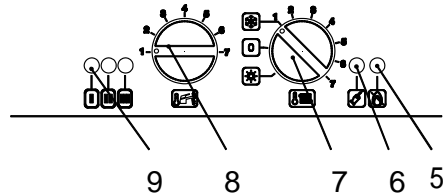

Figure 5.3
- 3 If the boiler is to be used for c.h and d.h.w position the function selector 7 as in figure 5.3. The appliance operation light 9 will flash every 2 seconds (operating boiler).